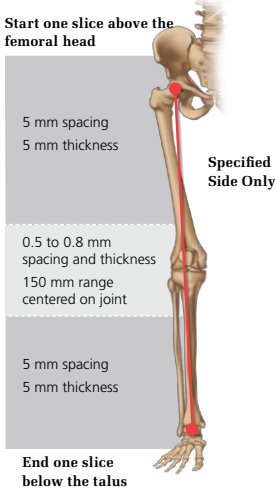

Figure 1
- 5mm thick spacing in hip and ankle (Figure 1)
- 0.5 to 0.8mm thin spacing in knee (Figure 1)